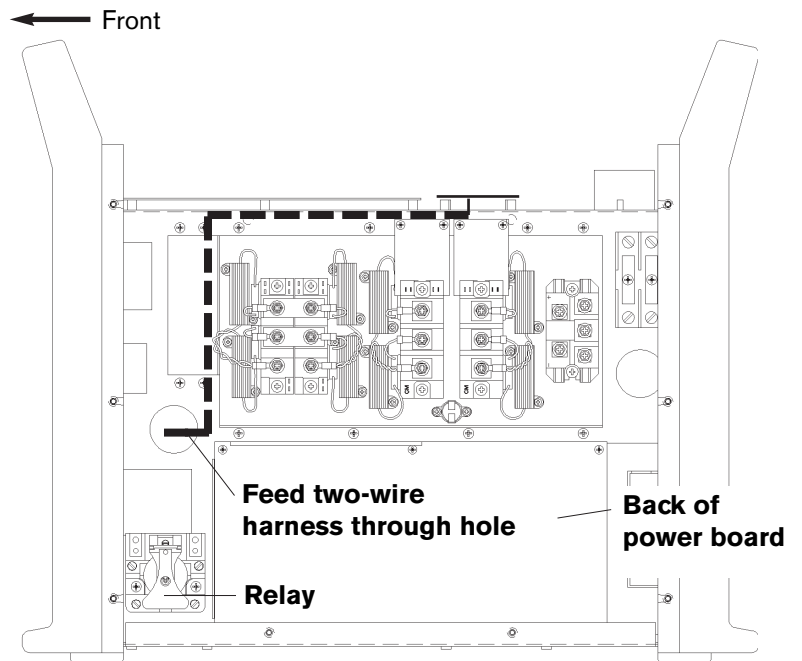

Figure 4 - Two-Wire Harness Feed
8. Take the two-wire harness that is attached to the machine interface board, and route it to the power board by feeding it through the hole located above the relay – Fig. 4.